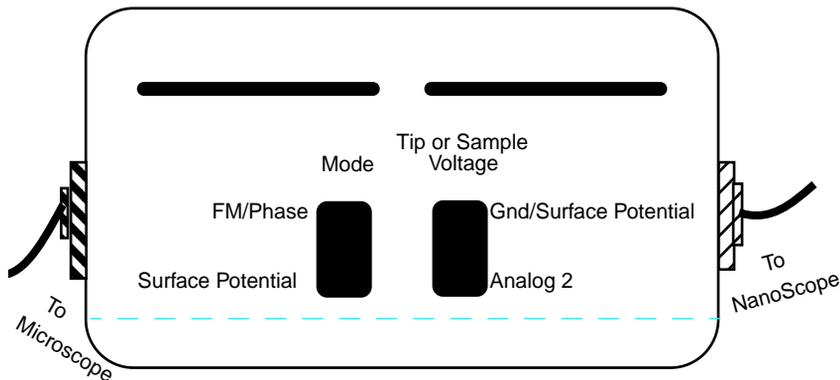

Figure 230-25 Toggle Switches on back of Extender Electronics Module
1. Locate the two toggle switches on the backside of the Extender Electronics box (Figure 230-25), then verify that they are toggled as shown in Table 230.2.